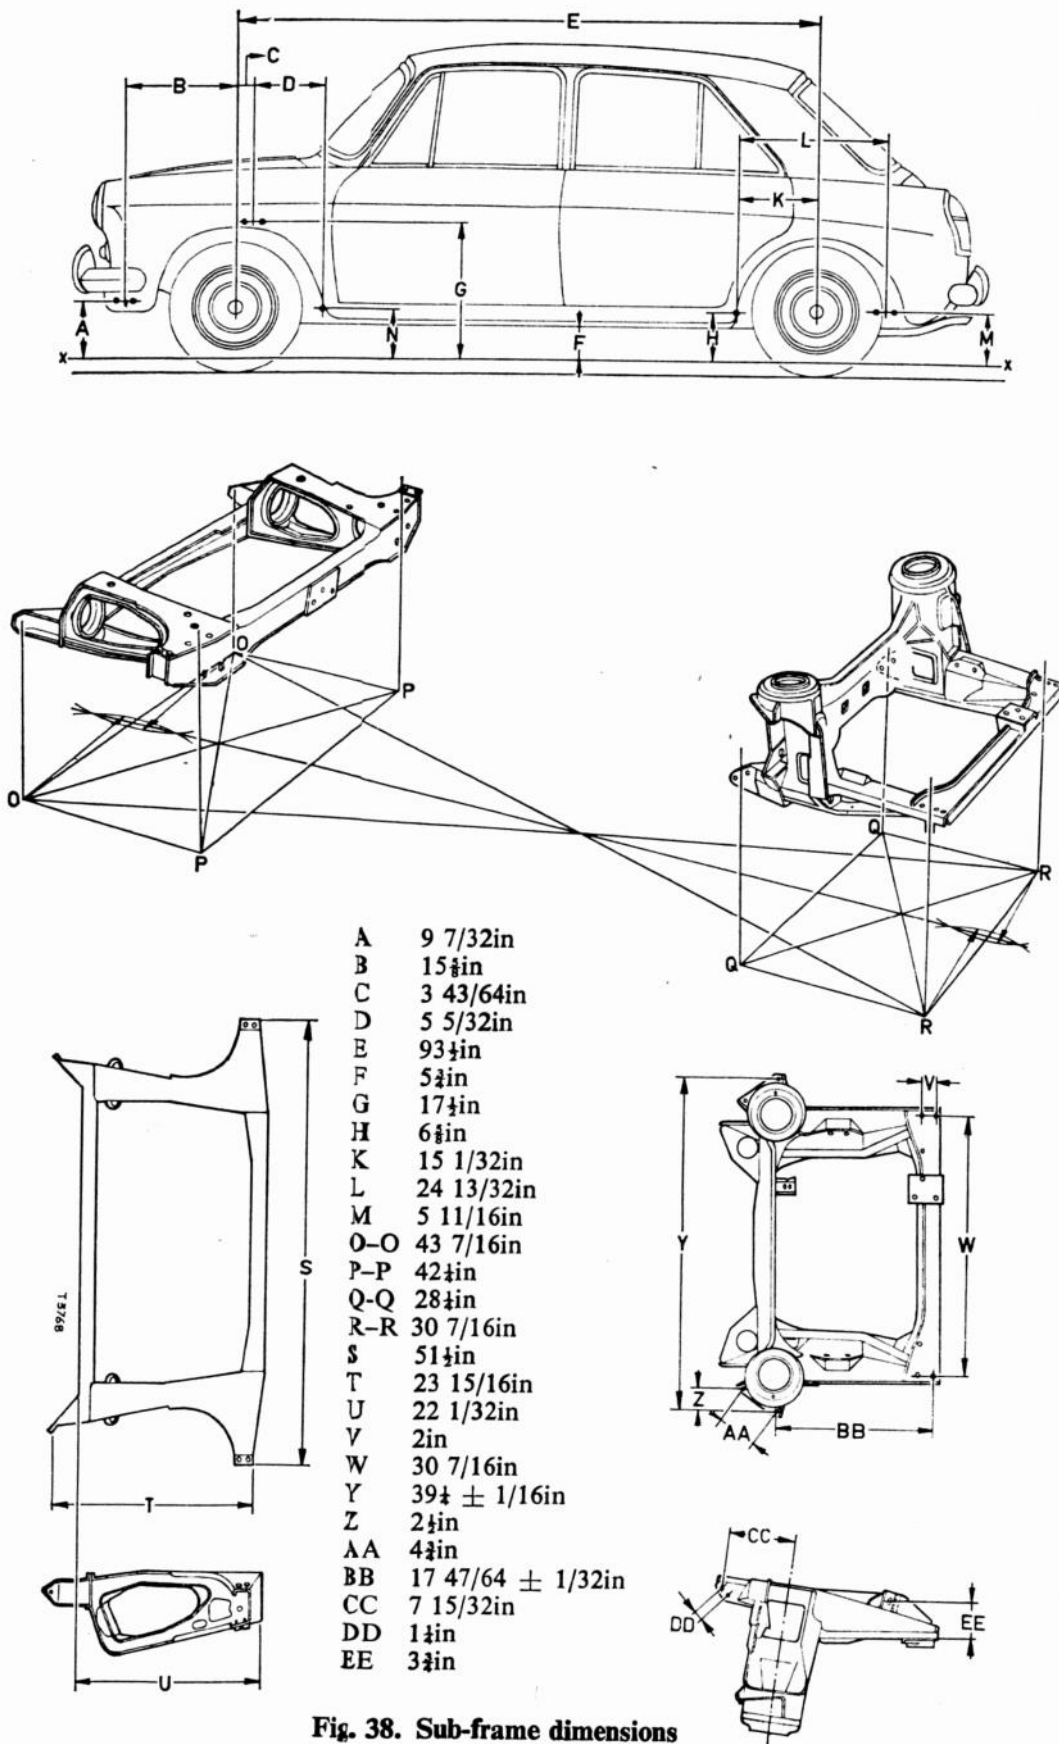

Fig. 38. Sub-frame dimensions
**Chassis:** The body is of unit construction, with detachable sub-frames at front and rear. For sub-frame dimensions refer to Fig. 38.